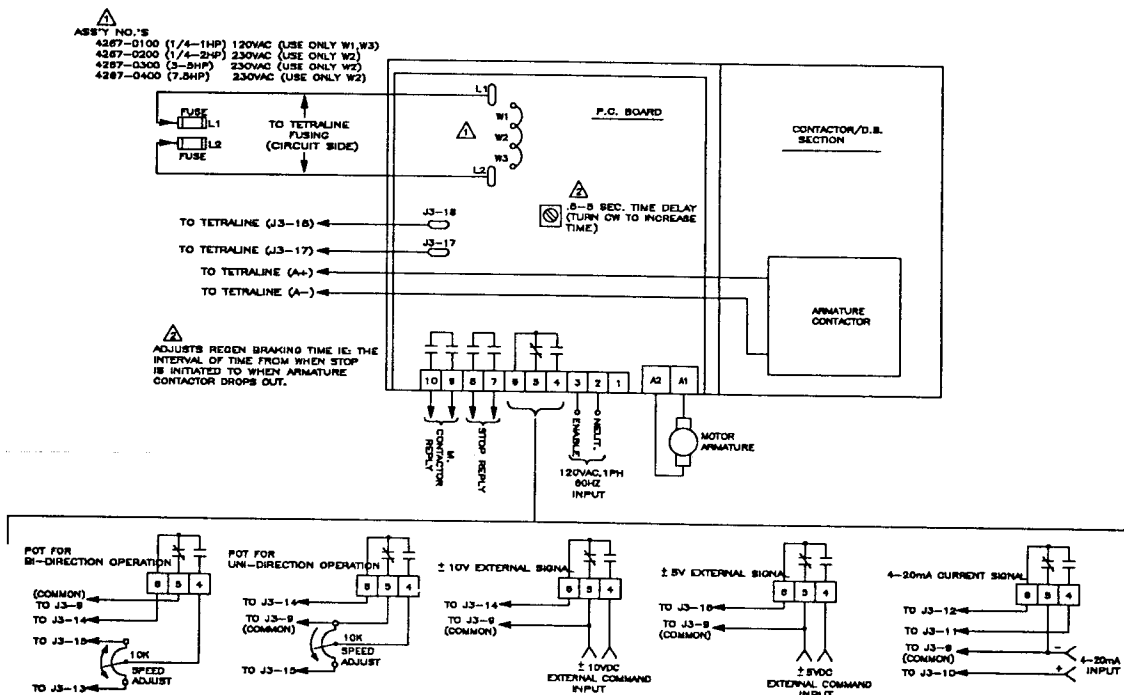

Fig. 19 - Interconnection Information
P.C. Interface with Regen Stop, Armature Contactor and Dynamic Braking is a separate chassis mount option that inter-wires to the Tetra-Line. It provides a contactor for disconnecting the motor armature from the armature output of the Tetra-Line. When the contactor is disabled, a brake resistor is connected across the motor armature for Dynamic Braking. The armature contactor and Tetra-Line are enabled by applying 120 VAC from an external source such as a PLC to the option. When stop is initiated by removal of the 120 VAC input, a pilot relay gives a "Zero" speed command to the Tetra-Line and the motor is commanded to zero speed by regenerative braking. After an interval of time, (which is adjustable from .5 to 5 sec.), the armature contactor is disabled. Isolated relay contacts are provided for the "Regen Stop" and "Armature Contactor" functions. These contacts are each seriesed with another contact for A.C. power status to the Tetra-Line. When main A.C. power is applied to the Tetra-Line, and the armature contactor enabled, these contacts close providing a "talk back" to the PLC or other logic. (See Fig. 19 connection diagram).